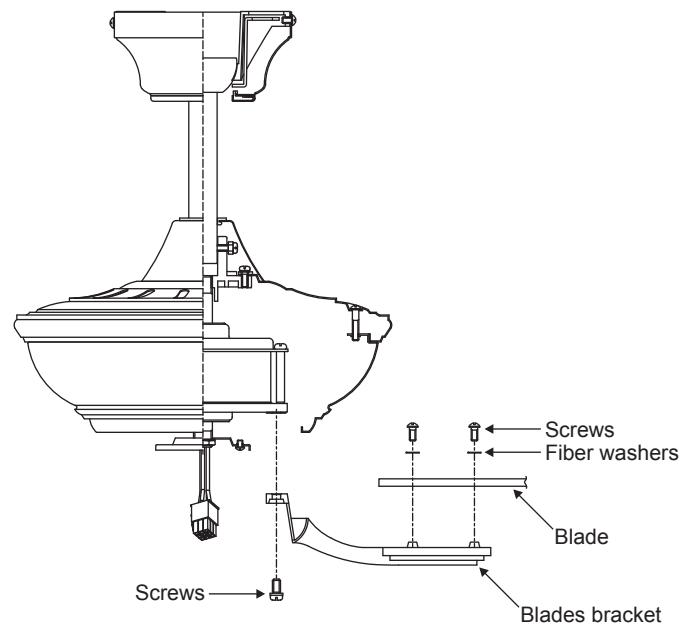

Figure 16
Step 1. Attach the blade to the blade bracket using the screws and fiber washers as shown in Figure 16. Start screw into bracket. Repeat for the two remaining screws.
Step 3. Fasten blade assembly to motor using the screws supplied. (Fig. 16)